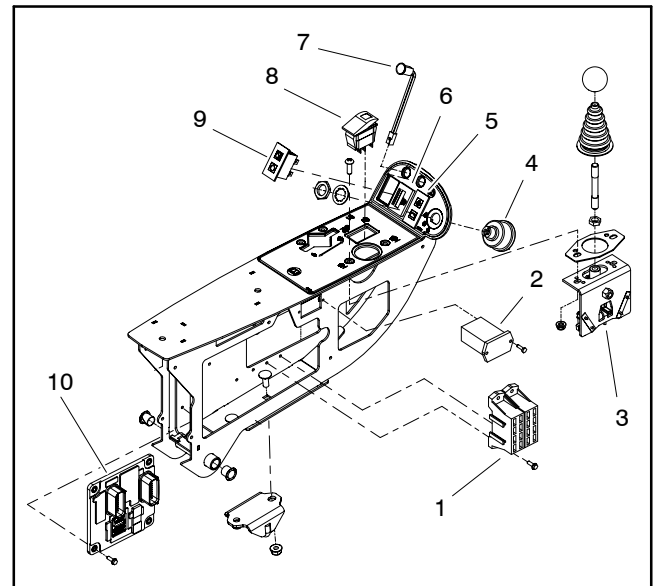

Figure 65
3. At front of control arm, remove screw (item 6) and lock nut (item 5) that secure control arm covers to each other.
4. Remove five (5) washer head screws (item 16) that secure each cover to control arm.
5. Remove control arm covers from machine. As LH control arm cover (item 3) is removed from control arm, unplug wire harness connector from headlight switch.
6. Remove electrical components from control arm as needed using Figure 65 as a guide.
1. Install all removed electrical components to control arm using Figure 65 as a guide.